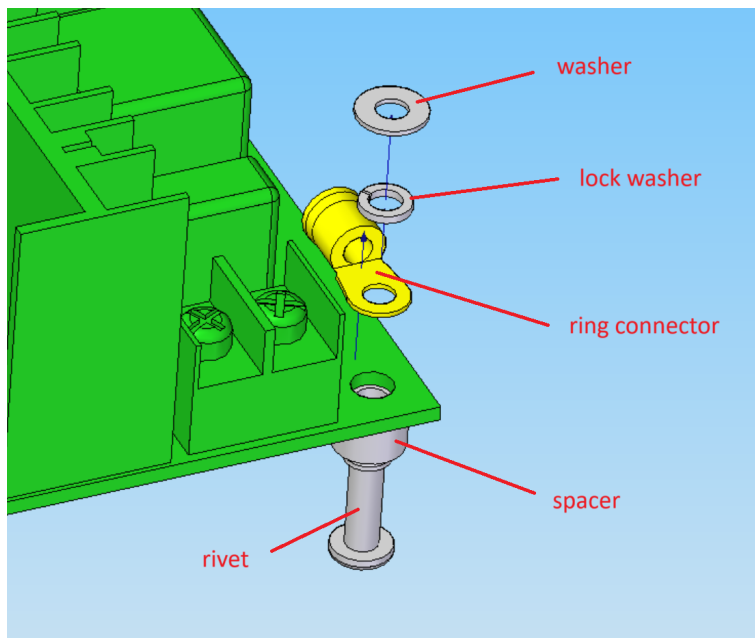

Figure 3.23: Connect the power supply ground to the base and power supply cable ground
7. Install the **power supply** in the **base**, ensuring that the ground connection is correctly made (see Figure 3.23, page 120).